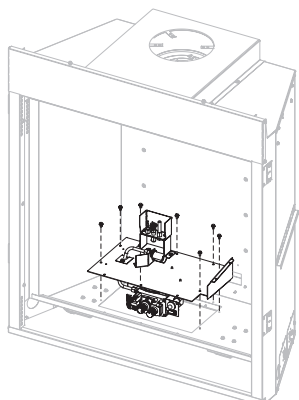

Figure 13
10. Remove ten screws and lift burner assembly. Disconnect the gas line. **See Figure 13.**
17. Reinstall the burner assembly and ten screws removed in step 10. **See Figure 13.**